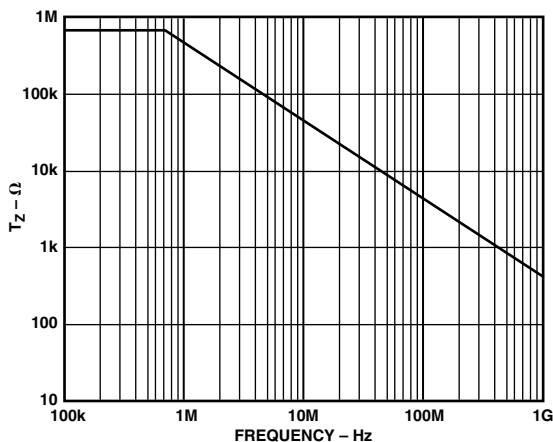

Figure 5. Transimpedance vs. Frequency
Recognizing that  $G \times R_{IN} \ll R1$  for low gains, it can be seen to the first order that bandwidth for this amplifier is independent of gain (G). This simple analysis in conjunction with Figure 5 can, in fact, predict the behavior of the AD8001 over a wide range of conditions.